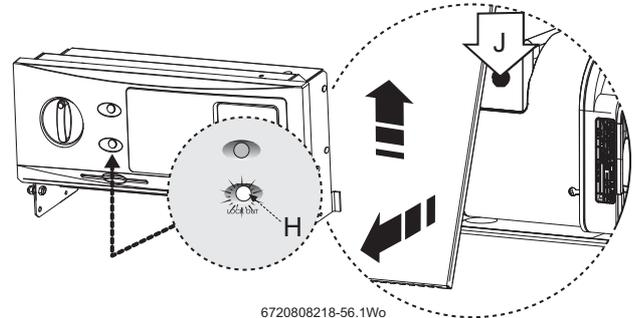

Fig. 73
- ▶ Wait two minutes then press the lockout reset button [J] ( $\rightarrow$  figure 73) to initiate another start sequence.